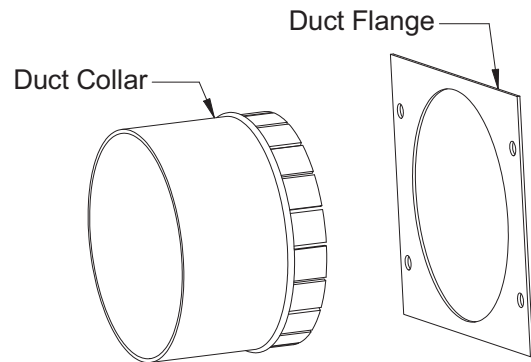

Fig. 49 — Duct Collar and Duct Flange
10. Insert the 3 in. duct collar through the duct collar flange opening. Bend the tabs back around the duct collar flange opening. See Fig. 49.